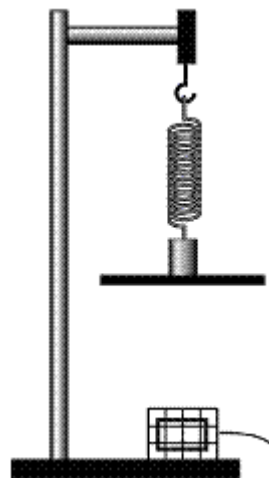

Figure 7
1. Set up the apparatus as shown in Figure 7. The spring is connected to a hook clamp that is slid onto the upper rod. Tape a 3" x 5" index card on the bottom of